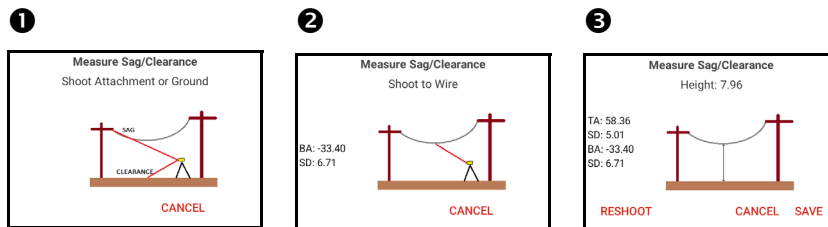

Figure 29
2. Follow the prompts (Figure 29) and the data will be saved to the NOTES tab.